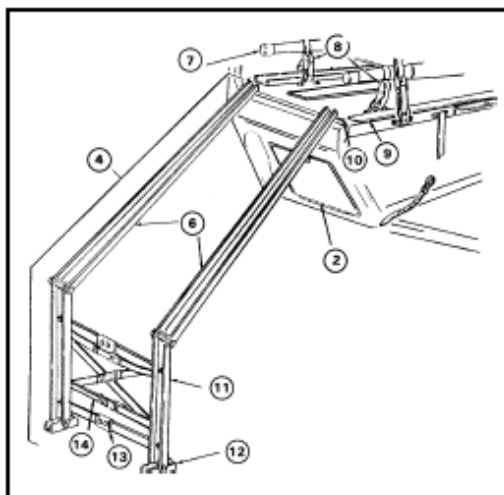

Figure 3-46. Assemble the litter rail extension
- (4) Release litter support latch stop (25), push latch (24) in, and lower upper litter rack (21) onto lower litter rack (9).
- (5) Slide litter rack handle (17) into upper litter rack (21).
- b. Assemble the litter rail extension. Refer to Figures 3-46 and 3-47.